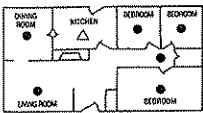

FIGURE 1
- Do install a smoke alarm in the hallway outside of every bedroom area. If the bedroom has a door, there must be a smoke alarm inside and outside the bedroom. See Figure 1. If your home or residence has two bedroom areas, a smoke alarm must be placed outside the second bedroom area, and inside the bedroom(s) if they have doors. See Figure 2.